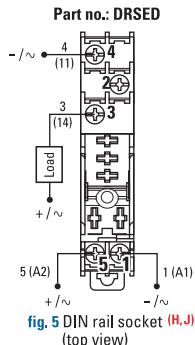

fig. 5 DIN rail socket (H,J)
- ◆ Wire the socket DRSED to the input/output side (fig. 5). AWG #24 minimum, 2 x AWG #14 (stranded/solid) maximum (0.2-2.1 mm²), choose wire gauge according to load current. Maximum recommended terminal screw torque 5.3-8.85 in-lbs (0.60-1.2 Nm) on input/output terminations.